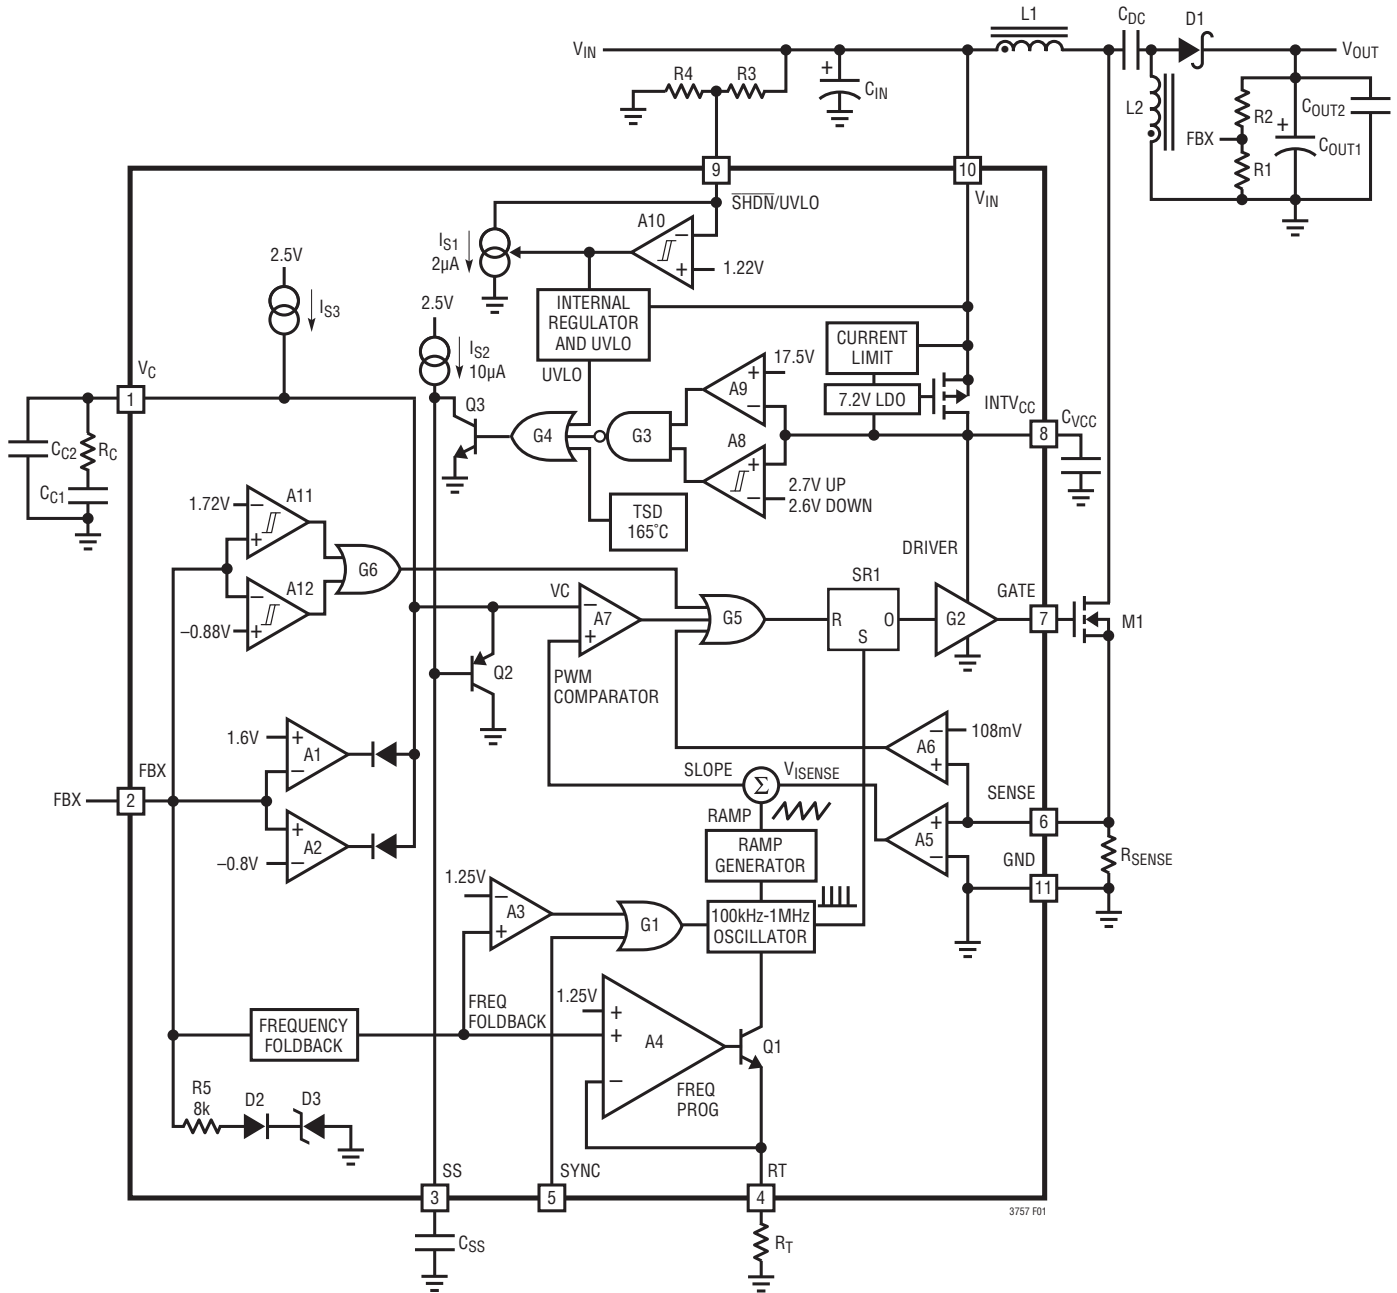

Figure 1. LT3757 Block Diagram Working as a SEPIC Converter
The LT3757 uses a fixed frequency, current mode control scheme to provide excellent line and load regulation. Operation can be best understood by referring to the Block Diagram in Figure 1.
The LT3757 is capable of generating either positive or negative output voltage with a single FBX pin. It can be configured as a boost, flyback or SEPIC converter to generate positive output voltage, or as an inverting converter to generate negative output voltage. When configured as a SEPIC converter, as shown in Figure 1, the FBX pin is pulled up to the internal bias voltage of 1.6V by a voltage divider (R1 and R2) connected from  $V_{OUT}$  to GND. Comparator A2 becomes inactive and comparator A1 performs the inverting amplification from FBX to  $V_C$ . When the LT3757 is in an inverting configuration, the FBX pin is pulled down to  $-0.8V$  by a voltage divider connected from  $V_{OUT}$  to GND. Comparator A1 becomes inactive and
The purpose of this current is to allow the user to program the rising hysteresis. The Block Diagram of the comparator and the external resistors is shown in Figure 1. The typical falling threshold voltage and rising threshold voltage can be calculated by the following equations:
An internal, low dropout (LDO) voltage regulator produces the 7.2V INTVCC supply which powers the gate driver, as shown in Figure 1. If a low input voltage operation is expected (e.g., supplying power from a lithium-ion battery or a 3.3V logic supply), low threshold MOSFETs should be used. The LT3757 contains an undervoltage lockout comparator A8 and an overvoltage lockout comparator A9 for the INTVCC supply. The INTVCC undervoltage (UV) threshold is 2.7V (typical), with 100mV hysteresis, to ensure that the MOSFETs have sufficient gate drive voltage before turning on. The logic circuitry within the LT3757 is also powered from the internal INTVCC supply.
The choice of operating frequency may be determined by on-chip power dissipation, otherwise it is a trade-off between efficiency and component size. Low frequency operation improves efficiency by reducing gate drive current and MOSFET and diode switching losses. However, lower frequency operation requires a physically larger inductor. Switching frequency also has implications for loop compensation. The LT3757 uses a constant-frequency architecture that can be programmed over a 100kHz to 1000kHz range with a single external resistor from the  $R_T$  pin to ground, as shown in Figure 1. The  $R_T$  pin must have an external resistor to GND for proper operation of the LT3757. A table for selecting the value of  $R_T$  for a given operating frequency is shown in Table 1.
The output voltage ( $V_{OUT}$ ) is set by a resistor divider, as shown in Figure 1. The positive and negative  $V_{OUT}$  are set by the following equations:
In the applications where  $V_{OUT}$  is pulled up by an external positive power supply, the FBX pin is also pulled up through the R2 and R1 network. Make sure the FBX does not exceed its absolute maximum rating (6V). The R5, D2, and D3 in Figure 1 provide a resistive clamp in the positive direction. To ensure FBX is lower than 6V, choose sufficiently large R1 and R2 to meet the following condition:
The LT3757 addresses this mechanism with the SS pin. As shown in Figure 1, the SS pin reduces the power MOSFET current by pulling down the  $V_C$  pin through Q2. In this way the SS allows the output capacitor to charge gradually toward its final value while limiting the start-up peak currents. The typical start-up waveforms are shown in the Typical Performance Characteristics section. The inductor current  $I_L$  slewing rate is limited by the soft-start function.
The optimum values depend on the converter topology, the component values and the operating conditions (including the input voltage, load current, etc.). To compensate the feedback loop of the LT3757/LT3757A, a series resistor-capacitor network is usually connected from the  $V_C$  pin to GND. Figure 1 shows the typical  $V_C$  compensation network. For most applications, the capacitor should be in the range of 470pF to 22nF, and the resistor should be in the range of 5k to 50k. A small capacitor is often connected in parallel with the RC compensation network to attenuate the  $V_C$  voltage ripple induced from the output voltage ripple through the internal error amplifier. The parallel capacitor usually ranges in value from 10pF to 100pF. A practical approach to design the compensation network is to start with one of the circuits in this data sheet that is similar to your application, and tune the compensation network to optimize the performance. Stability should then be checked across all operating conditions, including load current, input voltage and temperature.